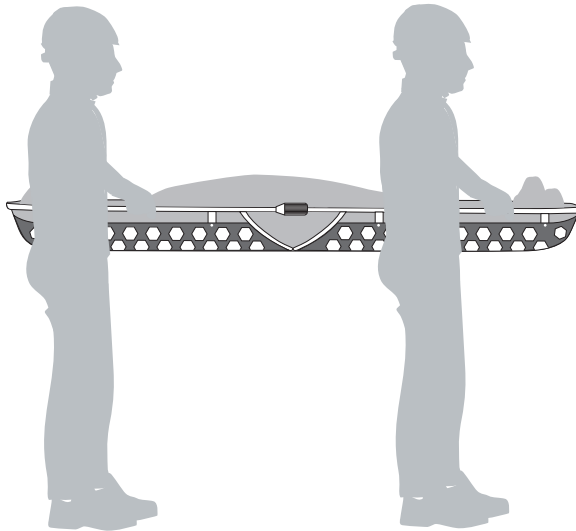

Fig.11
- **Manual transport (fig. 11)**